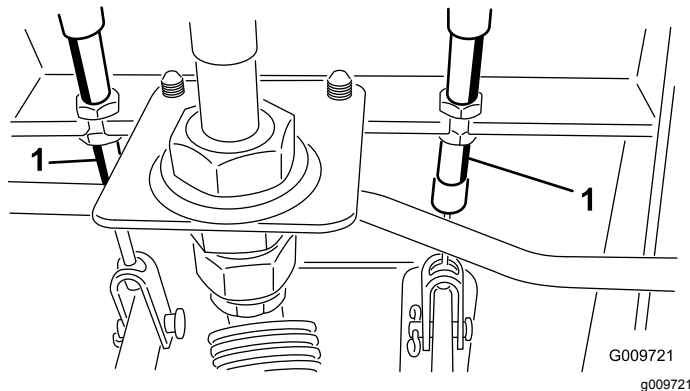

Figure 100
- A. Loosen the front nut on the threaded end of the brake cable (Figure 100).